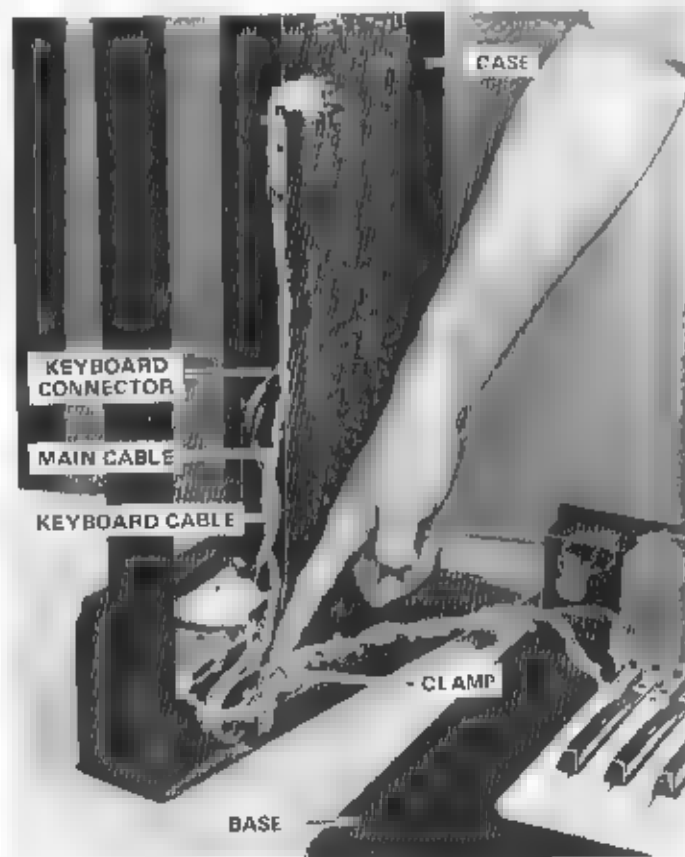

FIGURE 3-3 UNLOCKING CABLE CLAMP
b) Depress top of clamp firmly to release the main cable. Carefully note the portion of the cable that the clamp holds. Releasing the cable makes the case and base parts much simpler to reach for servicing (See Figure 3-3)
a) To remove keyboard, take out the four mounting screws (see Figure 3-8). The keyboard cable wraps around the main cable and can be separately removed by unplugging the keyboard connector from the main PC board (see Figure 3-3). Once the keyboard cable is unwound, the connector may be plugged in again and the keyboard may be placed on the table and played in a normal fashion.